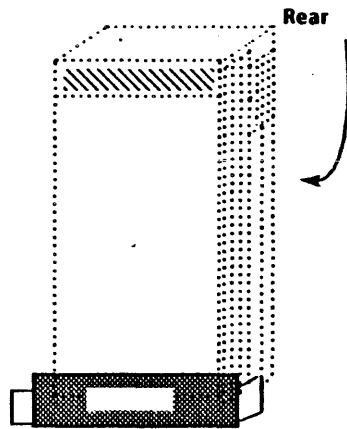

Figure 1. Side of Processor Unit
1. Unpack the box marked "6085 Processor Unit" by tearing the perforations and folding down the styrofoam packing insert at the front of the Processor Unit. (Refer to Figures 1 and 2 of the Processor Unit.)